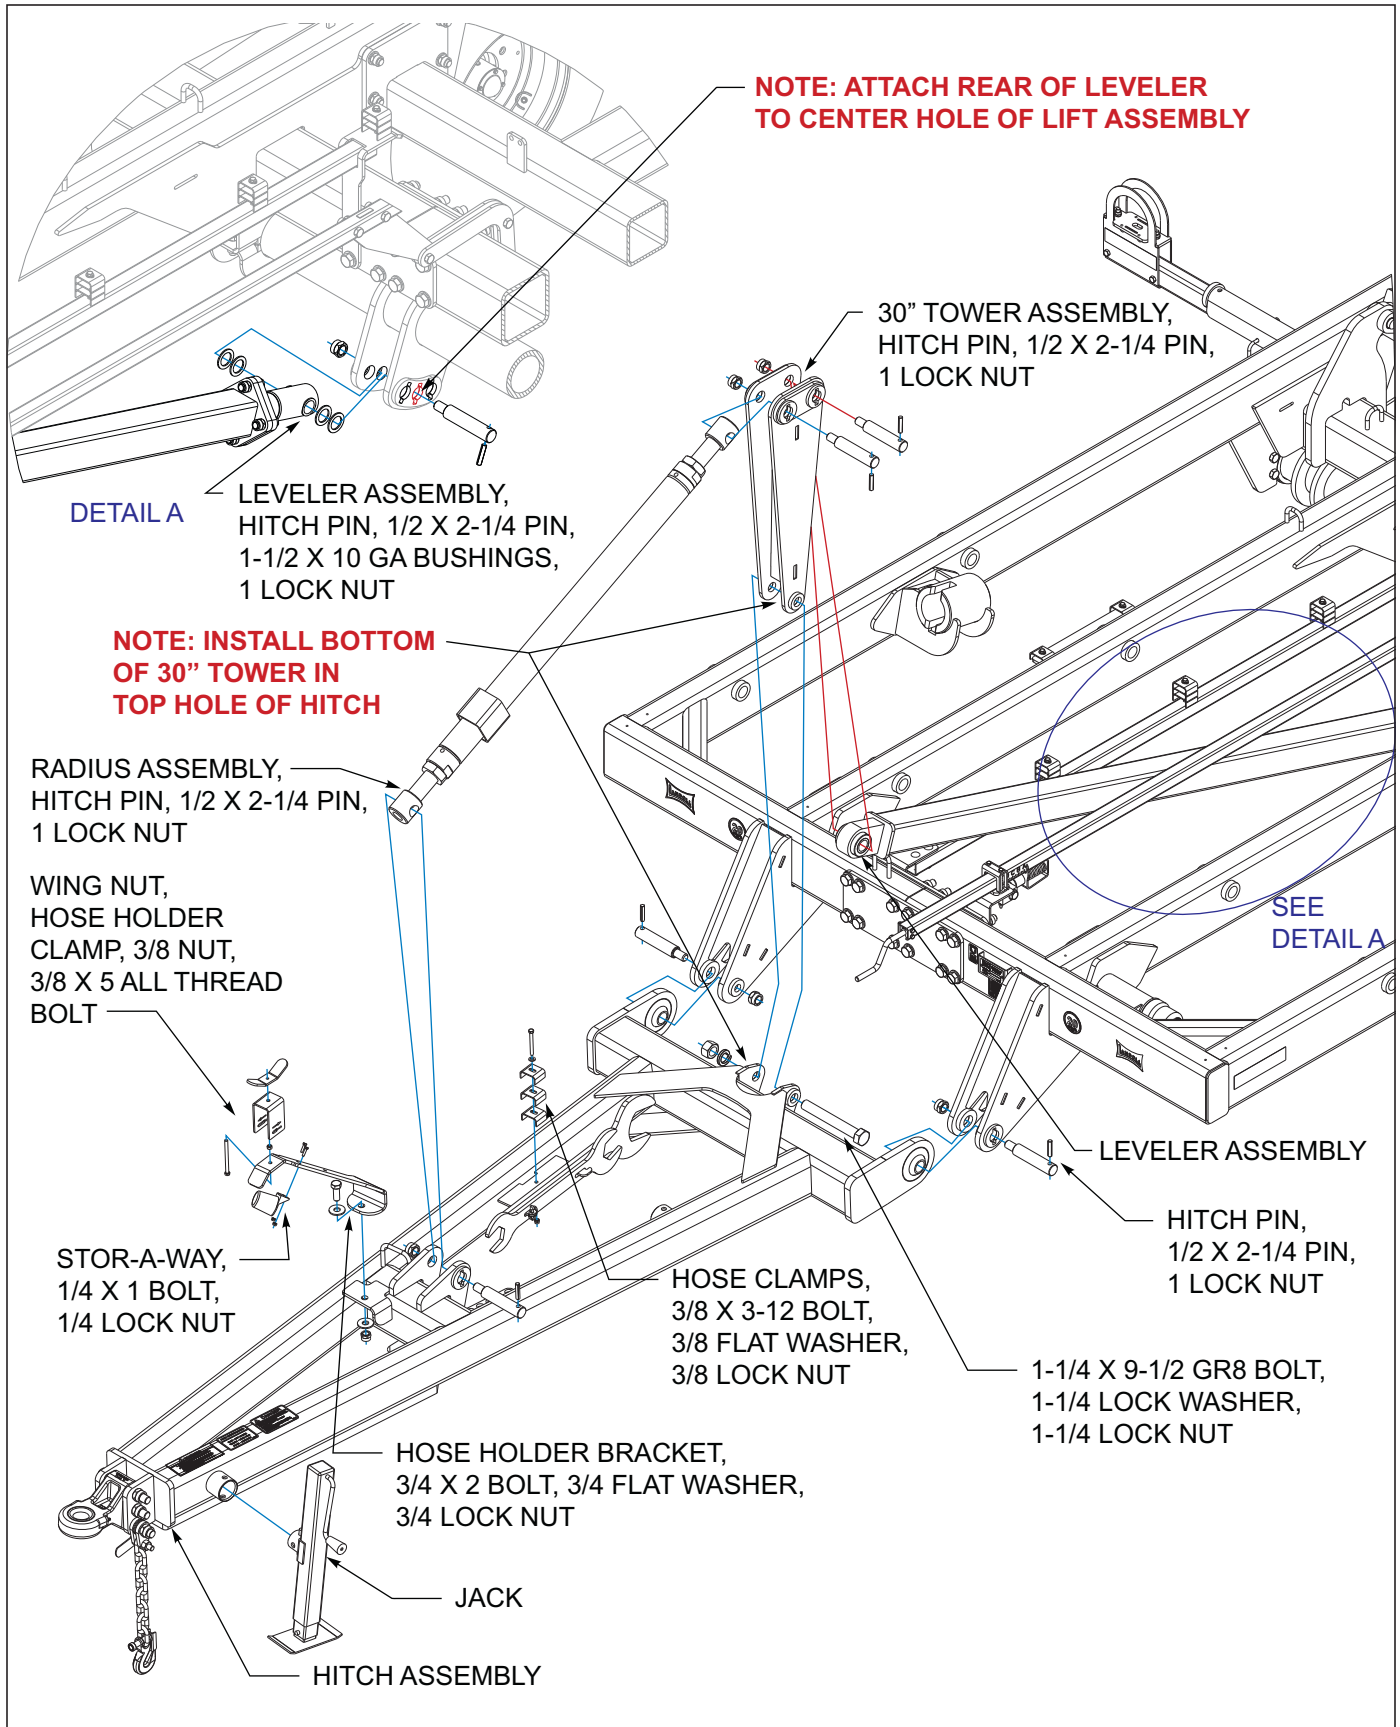
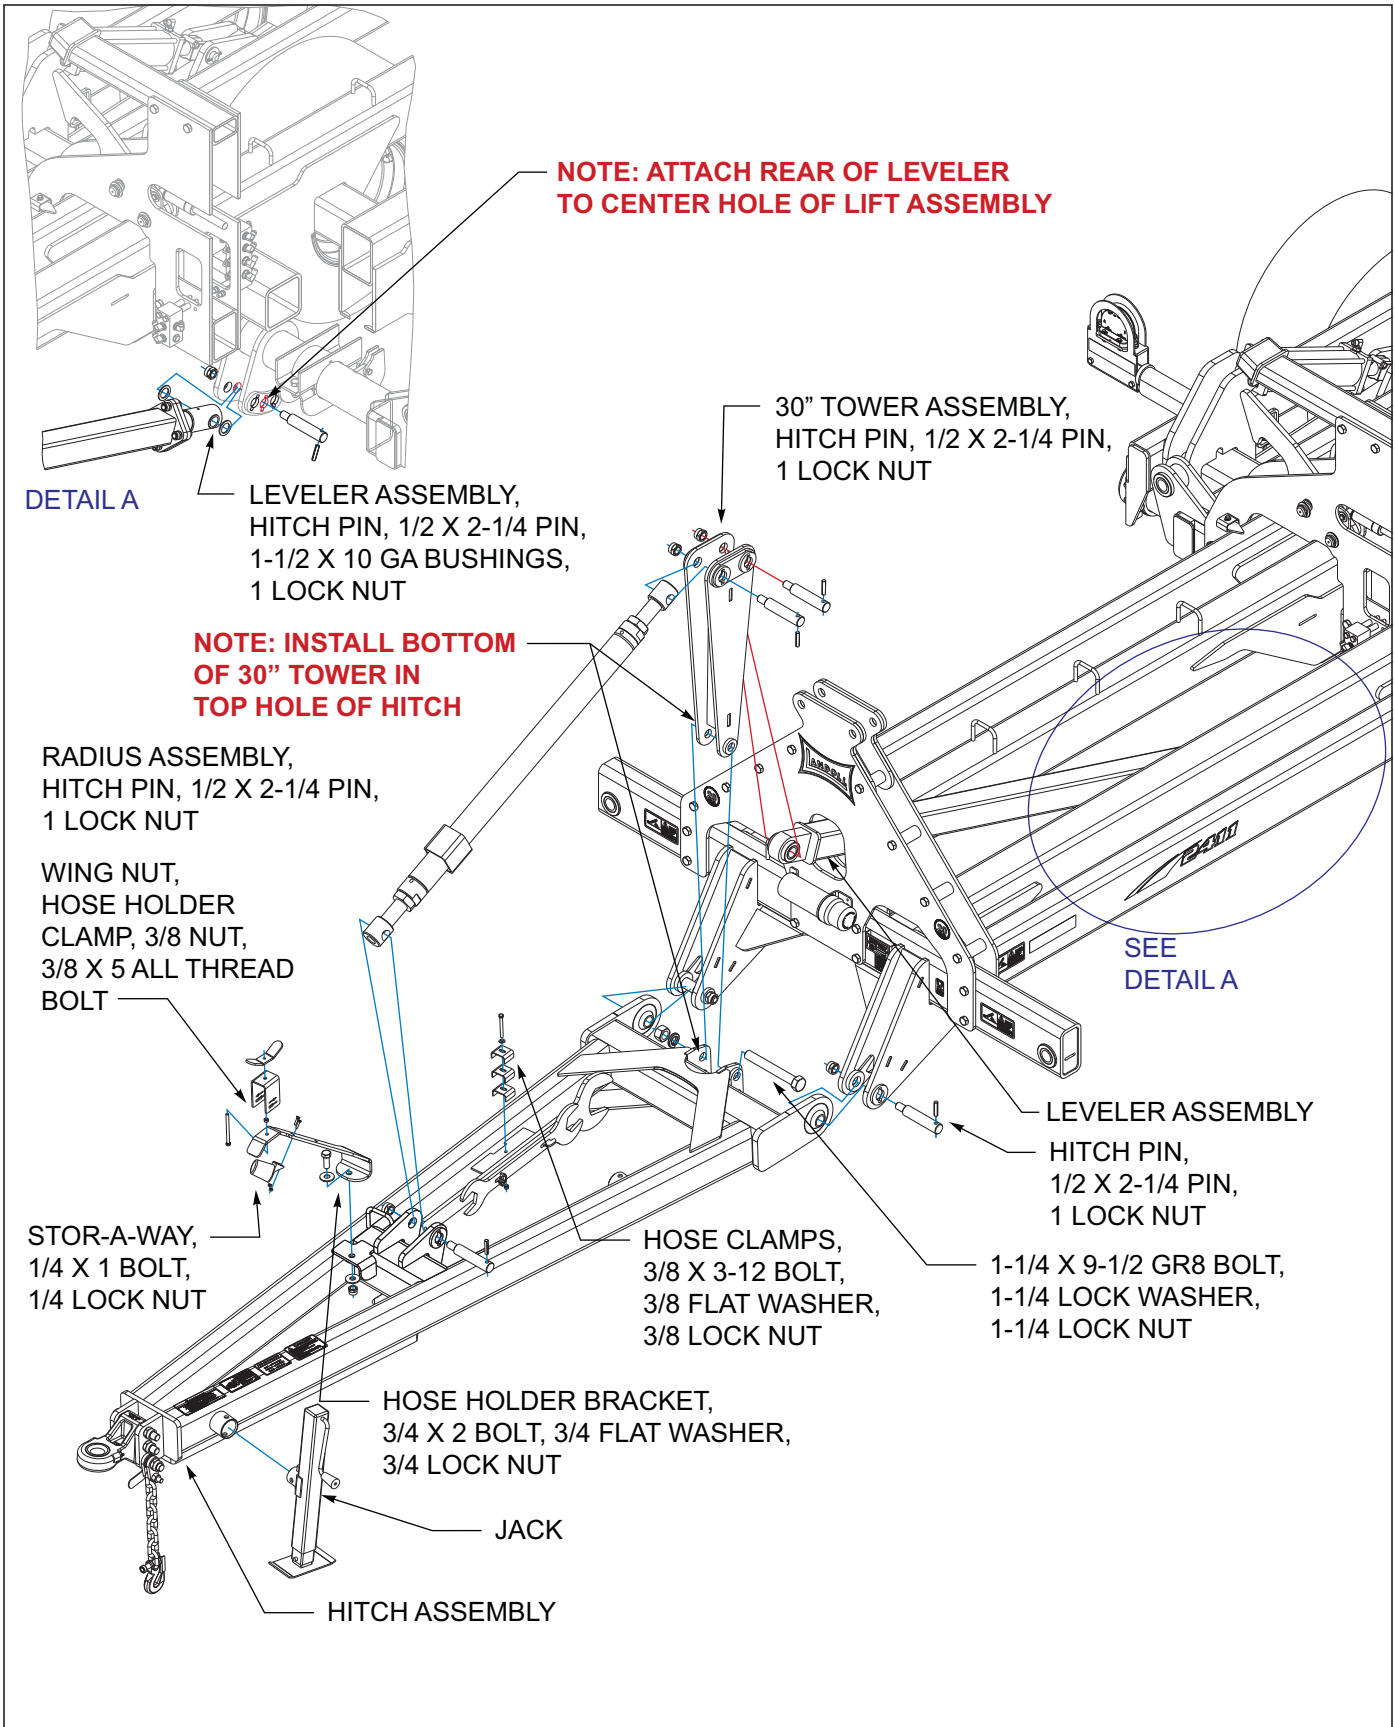

Figure 3-8: Hitch Assembly 2411-06
Figure 3-9: Hitch Assembly 2411AFG-07-09
1. Attach hitch assembly to front of center frame assembly with hitch pins, 1/2 x 2-1/4 pin and 1 lock nut See Figure 3-8 for 2411-06 or See Figure 3-9 for 2411AFG-07-09.
One bushing used on each side of leveler assembly as shown in Detail A view See Figure 3-8 for 2411-06. Two bushing used on each side of leveler assembly as shown in Detail A view See Figure 3-9 for 2411-06. Attach rear of leveler to center holes of lift assembly as shown in Detail A view See Figure 3-8 for 2411-06 or See Figure 3-9 for 2411AFG-07-09.